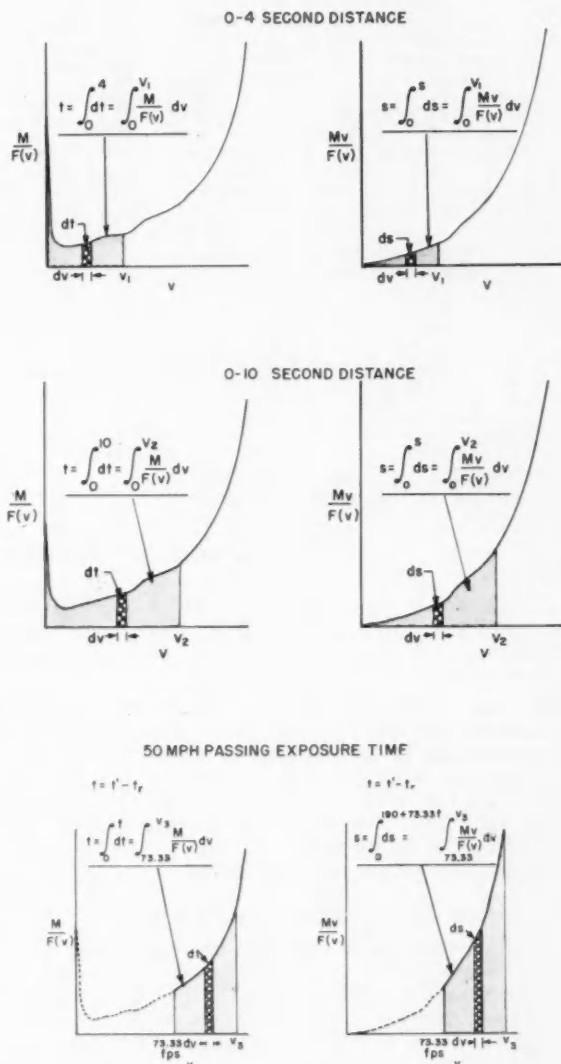

Fig. 2 — Integral evaluation — graphical description of 0-4 sec distance, 0-10 sec distance, and 50-mph passing exposure time.
A graphical description of the method employed to evaluate the integrals expressed in eq. (8)-(13) is found in Fig. 2. The M/F and Mv/F functions of velocity are plotted as shown. Determination of